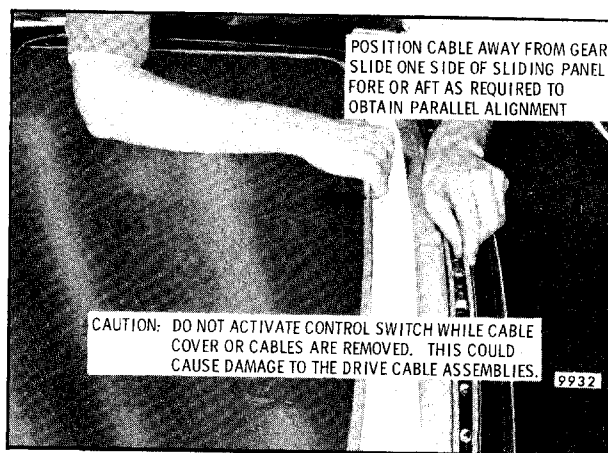

Fig. 8-98-Repairing Improper Parallel Alignment - C Styles (E and K Typical)
5. Slide one side of panel front or back as required to obtain proper alignment (Fig. 8-98).